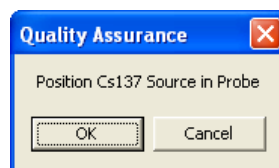

Figure 5-14
5. Click the **Start Procedure** button or press *Alt+S* to start the test. The screen appears as shown in Figure 5-14.